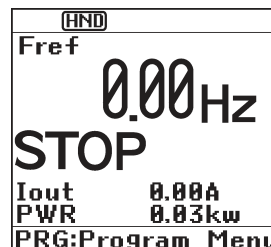

Figure 5.18 Display of the LCD Monitor after Power-on
- (1) Check that the LCD monitor displays 0.00 Hz (indicating that the reference frequency is 0 Hz) that is blinking. (See Figure 5.18.)